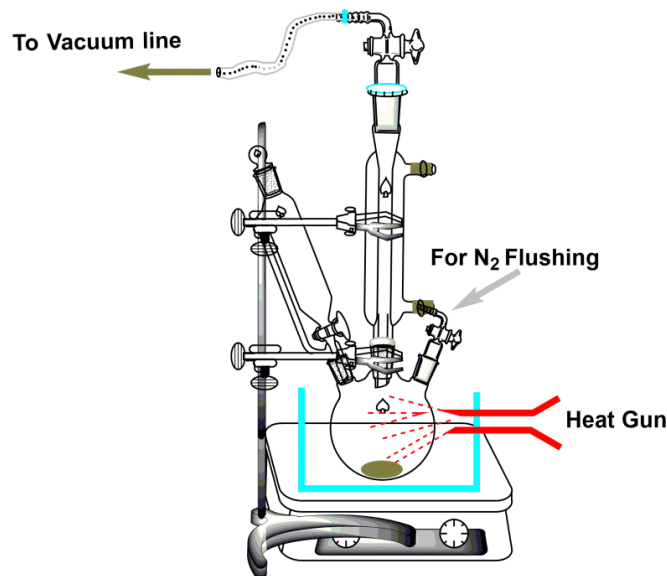

Figure 5: Glassware Drying Using a Heat Gun and Vacuum
- The large-size assembly can be dried using a Schlenk line vacuum and nitrogen gas by heating the reaction assembly (Fig. 5). After assembling the set-up, fill the vessel with nitrogen and leave it connected to nitrogen. The round bottom flask should be in an oil bath on a stirring hot plate. Attach a water line to a reflux condenser inlet of the reflux condenser; the outlet line should be secured to a drain.